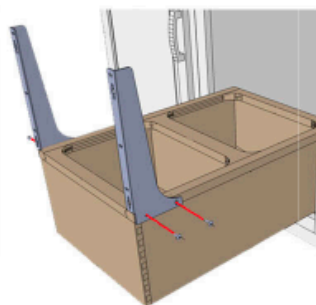

Fig.3
- STEP 3- Attach Door Mount Brackets to top side of Unit using the 4 machine screws provided into the threaded inserts in top edge of Unit (see Fig.3).